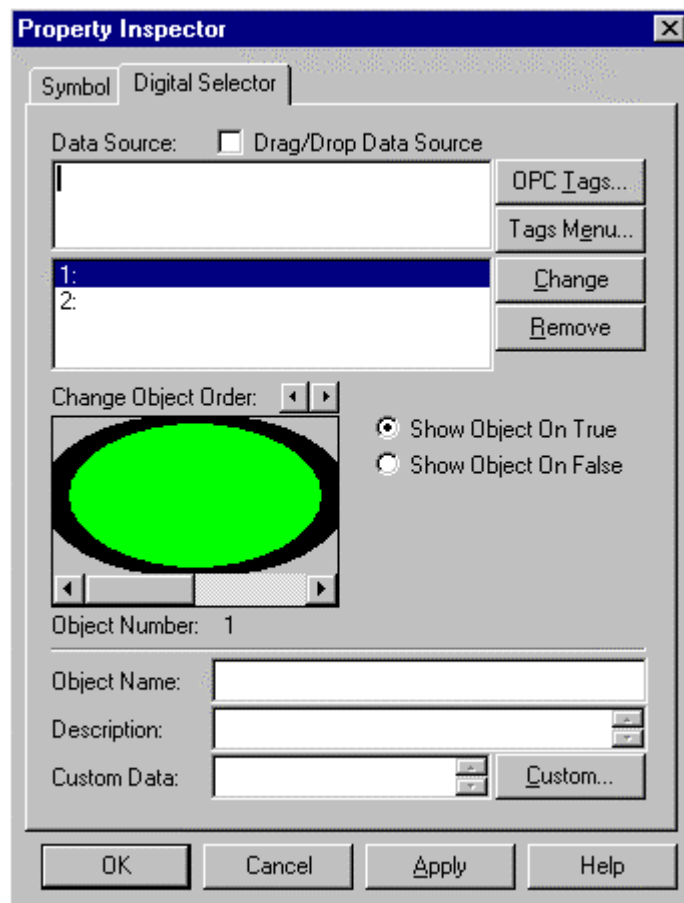

Figure 11-11: Property Inspector Dialog Box – Digital Selector Tab
2. On the Dynamics menu, select Selectors > Digital Selector. The Property Inspector dialog box appears with the Digital Selector tab (Figure 11-11).